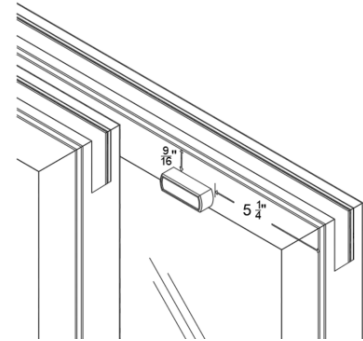

Figure 27
44. Pre-drill two $5/32"$ ($0.156"$) pilot holes on the inside of each operable panel $5-1/4"$ in from the right side of the panel and $9/16"$ down from the top of the panel to the edges of the come-along base (Figure 27). Attach the panel come-along (Item 26) using two screws (Item 45). Snap the panel come-along cover over the come-along base.